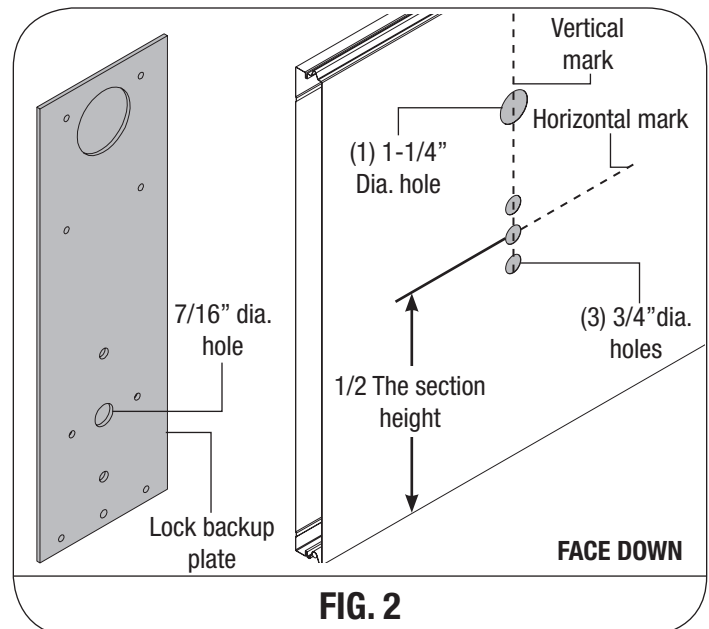

FIG. 2
9800/9700/8300/8500/8700 & WOOD DOORS, (SEE FIG. 2): Place the lock section face up on (2) padded sawhorses for a single car door or (3) padded sawhorses for a double car door. Locate the middle of the center stile, measure the distance from the end of the section to the middle of the center stile. Turn the section face down, transfer the measurement and mark a light vertical line, then mark a horizontal line at half the section height. Align the 7/16" diameter hole of the lock backup plate at the intersection point of the horizontal and vertical marks, use the lock backup plate as a template to mark the (4) holes, remove the lock backup plate and drill the (3) bottom holes to 3/4" diameter and the top hole to 1-1/4" diameter, drilling all (4) holes completely through the section.